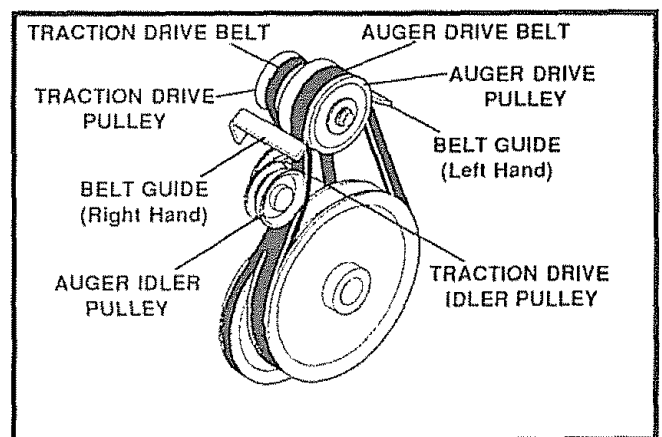

FIG. 27
- Loosen the belt guides (See Fig. 27) and pull away from the engine drive pulley.
- Loosen nut on the idler pulley (See Fig. 27) and pull idler pulley away from the belt.
TRACTION DRIVE BELT (See Fig. 27)